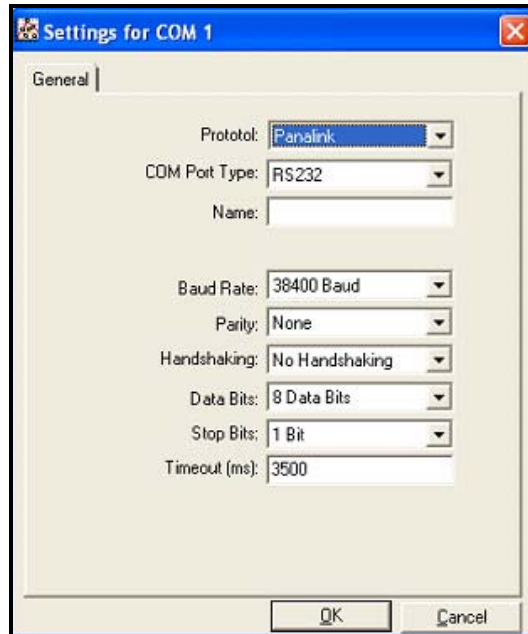

Figure 5: Settings for COM 1
- Set up the communications port as shown in Figure 5 below. Be sure the baud rate is correct.